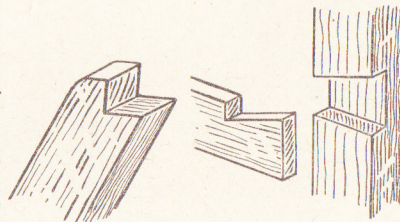

Fig. 4—Top of leg] Fig. 5—Dovetail of crossrail
The tops of pieces (B) will look as shown in Fig. 4. Rails (D) are cut from ¾in. stuff, 4½ins. wide. The ends can be left projecting and then sawn off in line with the legs (B) after being fixed with screws. Before this is fixed, however, brackets (E) are attended to, as they have to be screwed to part (D), and this cannot conveniently be done after (D) has been fixed.